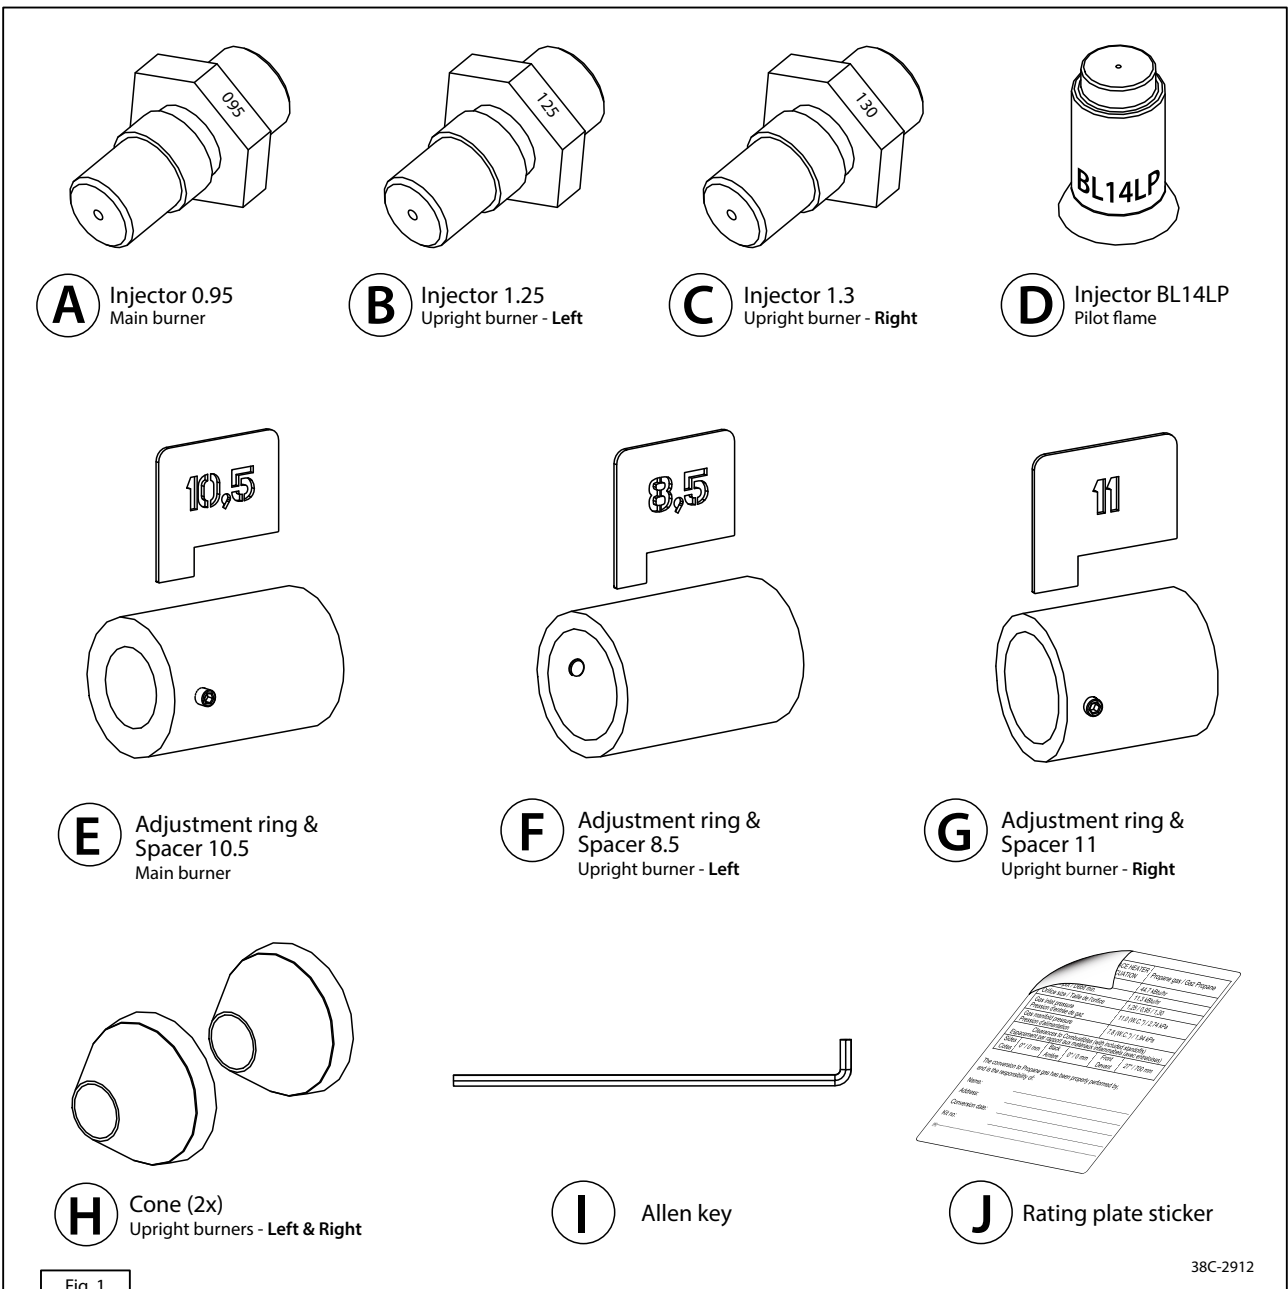

Fig. 1
The new injectors are supplied in the conversion kit. It is important that the correct injector is installed in the correct burner. Use injectors A, B and C in Figures 1 and 4.
- Replace the old injectors with the new ones from the conversion kit (Step 2). Make sure they are the right size! (see Fig. 1.)
- Replace the old injector with the new one from the conversion kit (Step 5). Make sure it is the right size! (see Fig. 1.)
The new injector for the pilot flame is supplied in the conversion kit. Use injector D for this in Figures 1 and 5.